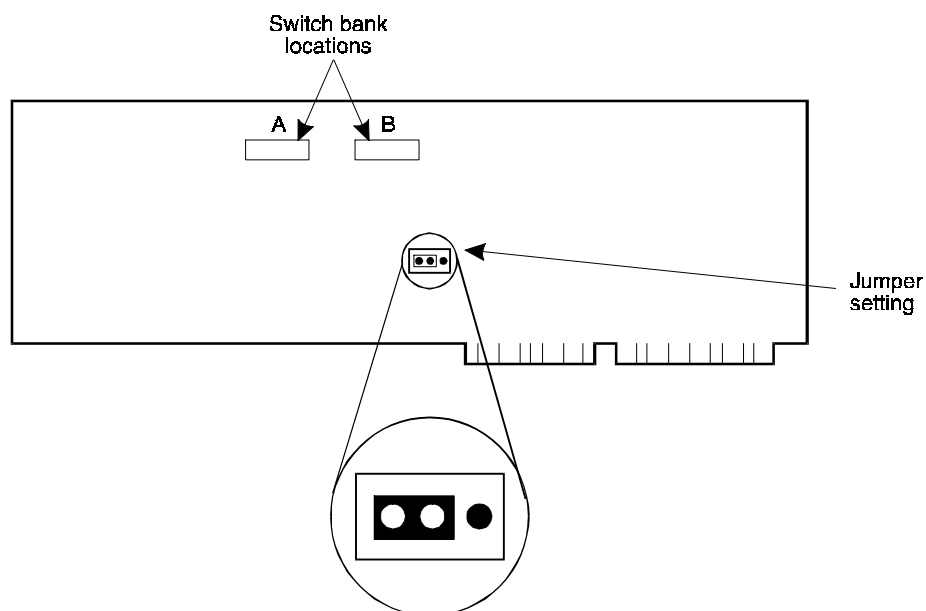

Figure D-41. IVP4 (AYC6) T/R Card Switch Bank and Jumper Locations
- IVP4 (AYC6) (see Figure D-41)